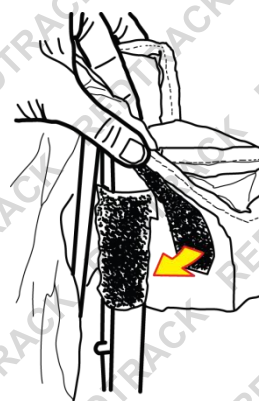

Fig 2 – Canopy to Leg Velcro Attachment
3. At each corner of the gazebo frame, carefully slip the canopy over the frame leg and be sure to firmly attach the canopy to the leg with the Velcro straps (*Fig 2*).